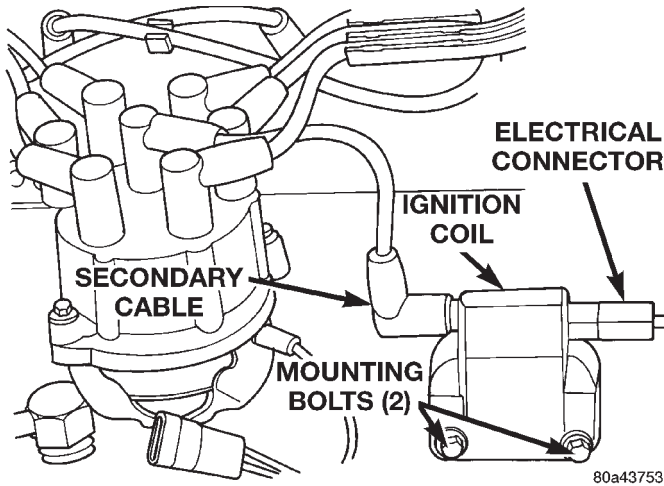

Fig. 37 Ignition Coil—4.0L Engine
- (4) Inspect ignition coil connections. Verify that coil secondary cable is firmly connected to coil (Fig. 37).